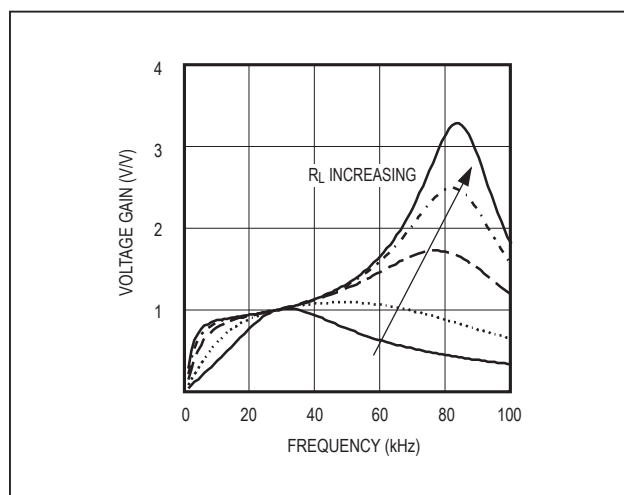

Figure 8. Frequency Response of the Resonant Tank
Figure 8 shows the frequency response of the resonant tank's voltage gain under different load conditions. The primary series capacitor is 1μF, the secondary parallel capacitor is 15pF, the transformer turns ratio is 1:93, and the secondary leakage inductance is 260mH. Notice that there are two peaks, f_S and f_P , in the frequency response. The first peak, f_S , is the series resonant peak determined by the secondary leakage inductance (L) and the series capacitor reflected to the secondary (C_s'):